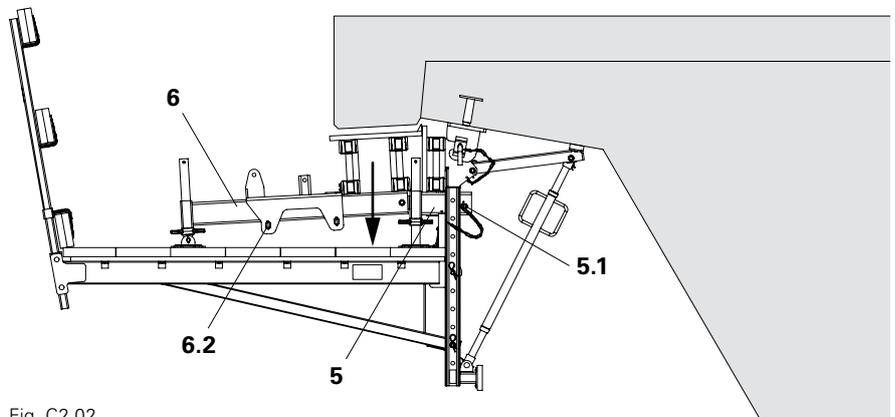

Fig. C2.02
1. Release wedge (5.1) on the Formwork Fixing VGK 2 (6.2) and wedges (6.2) on the Formwork Support VGK (6).
2. Turn spindle downwards until the Slab Formwork has been released from the cantilevered parapet. (Fig. C2.02)